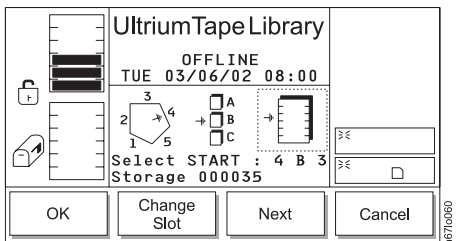

Figure 4-75. Change Slot Dialog
- b. Press the button below the **Change Magazine** softkey until the arrow in the middle icon points to the magazine that you want. Press the button below the **Next** softkey. The Change Slot Dialog displays (see Figure 4-75).